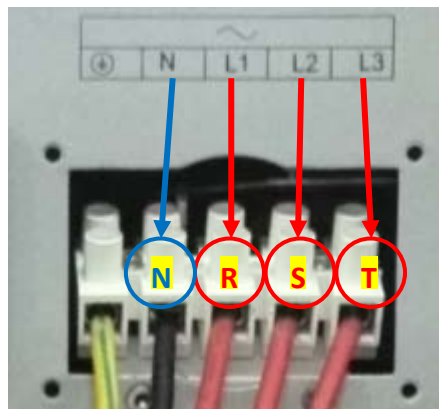

Fig.4.5.5
- If the AC terminal belongs to type 3 as Fig.4.3.1 show, please remove the shell of AC terminal by screwdriver and measure the corresponding phase voltage (R, S, T 3 phase) outside inverter as Fig.4.5.5.